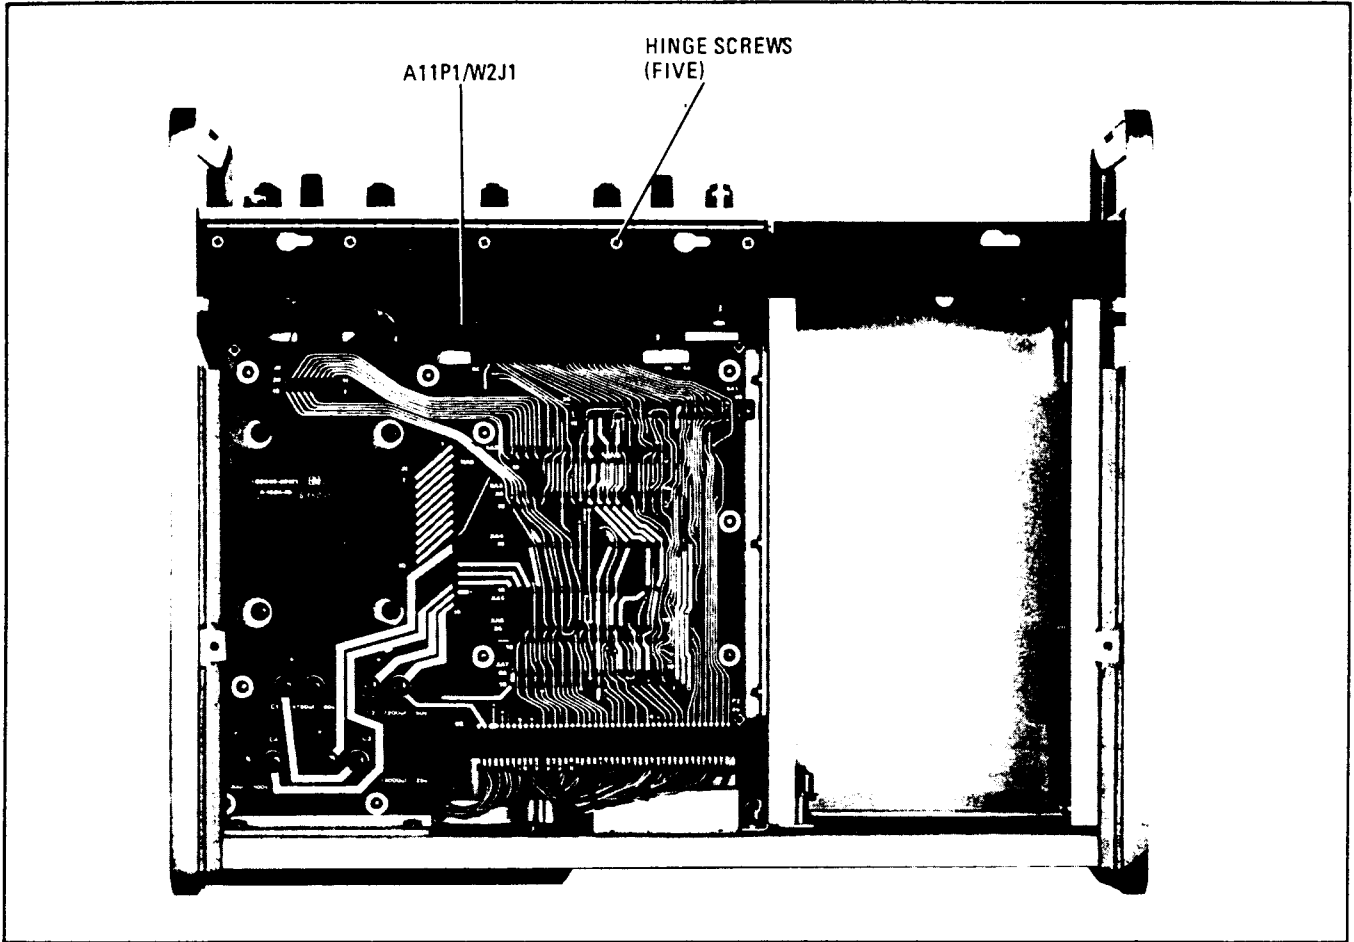

Figure 8-1. Removing Hinged Front Panel Assembly From Mainframe
- a. Remove bottom cover, plastic filler strip, and five screws used to secure hinged front panel to mainframe (Figure 8-1).